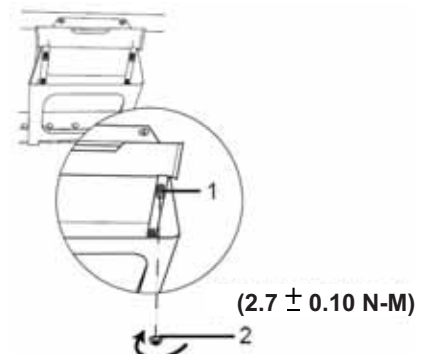

FIGURE 56
- 4.) PUSH THE REARWARD SIDE OF THE BOTTOM DVD MOUNTING BRACKET UPWARD AND SECURE USING FOUR M5 NUTS (2) WITH LOCTITE APPLIED. USE A 8mm SOCKET OR A NUTDRIVER TO TIGHTEN DOWN THE FOUR M5 NUTS. (SEE FIGURE 56)